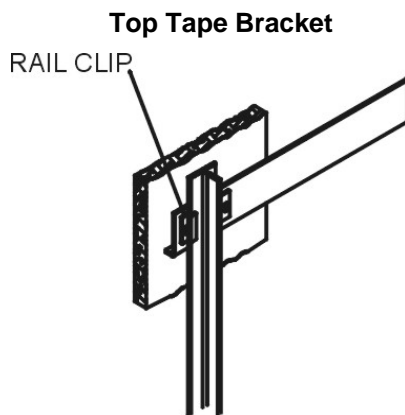

Figure 1-9
- Mount top tape support bracket on the main guide rail high enough so that the CPT Box will not strike the bracket when the car is sitting on the Stop Ring. [See Figure 1-9.]